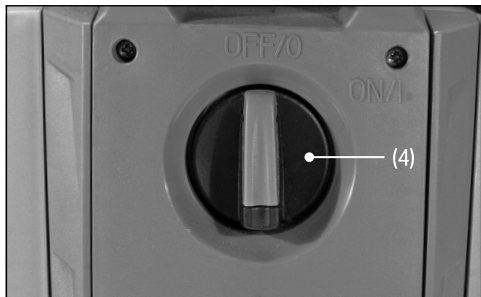
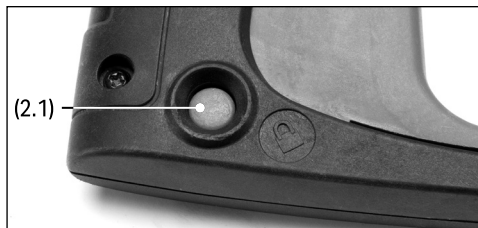

Fig. 12
Fig. 13
7.2 Switching On (Fig.12 – Fig.13)